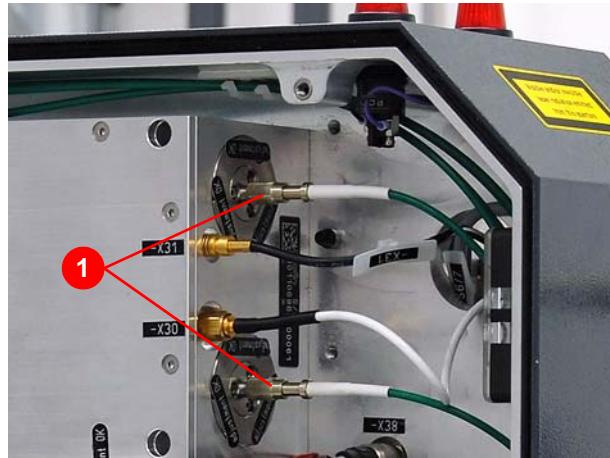

Figure 7.96 Disconnecting the glass fiber line from the resonator module
5. Disconnect the glass fiber line from the resonator module (1) (Figure 7.96).